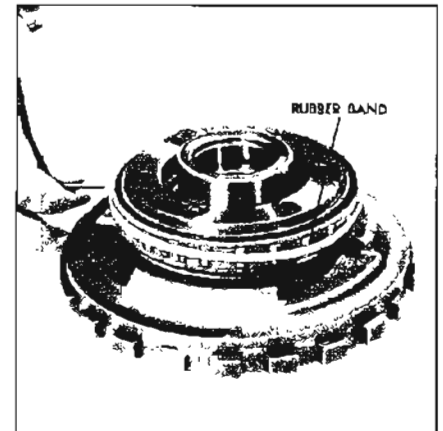

Figure 5-685
- a. Place a rubber band on the sprag assembly O.D. to hold the sprags in place. See Figure 5-685.